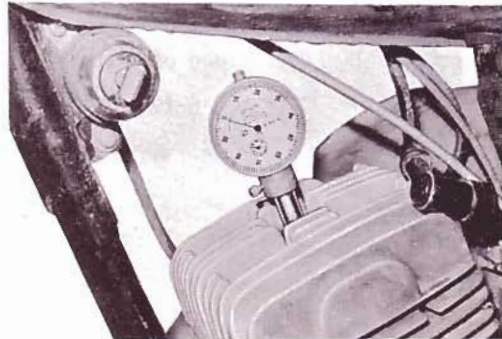

Fig. VII-5-14
- b) Remove the spark plug and screw the dial indicator holder into the plug hole. Next, insert the dial indicator into the holder. Bring the piston up to T.D.C. and set the zero on the dial face to line up exactly with the dial indicator needle. (Fig. VII-5-14)